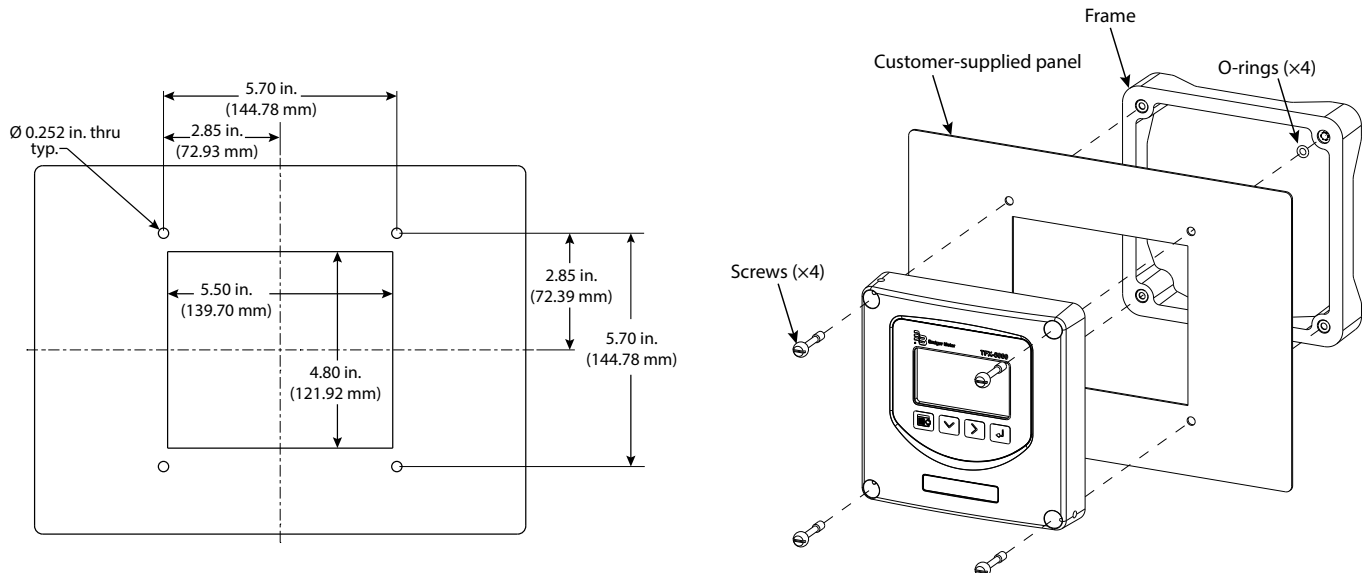

Figure 21: Panel cutout dimensions and installation exploded view
- Measure and cut a mounting hole into the customer-supplied panel to the dimensions shown in Figure 21.